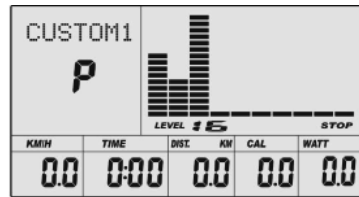

Fig 33
- F. The first resistance level will flash, and then press (or rotate) UP, DOWN button to set the desired load resistance. Press ENTER to confirm. Then repeat above operation to set the resistance from 2 to 10. (See Fig 33)